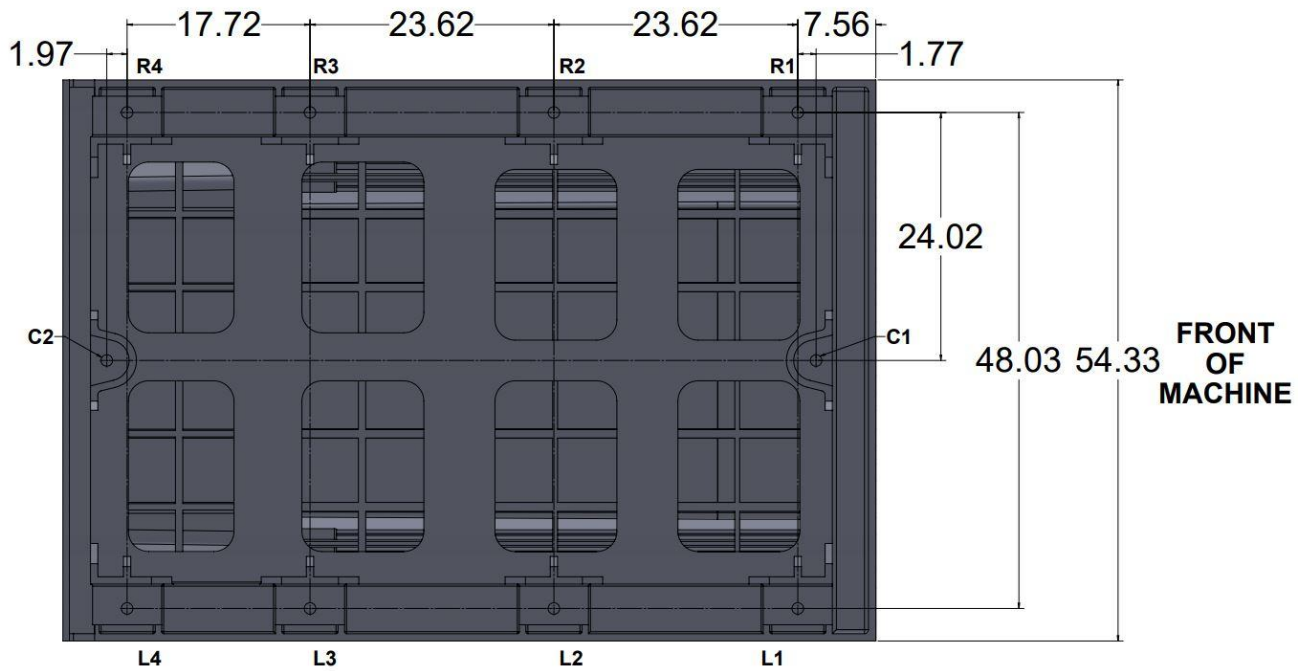

Figure 2.6.1c – TMC12 and TMC14 Leveling Pad Dimensions
5. On the TMC12 and TMC14, set all 10 leveling pads touching the ground. Leveling is achieved by using the seven leveling screws C1, L1, L2, L3, R1, R2, and R3. See figure 2.6.1c. All seven are tightened with about equal torque while adjusting screws C2, L4 and R4 should be left loose left loose with the leveling pads and have no pressure at this time. A 36 mm wrench is required to adjust the leveling bolts